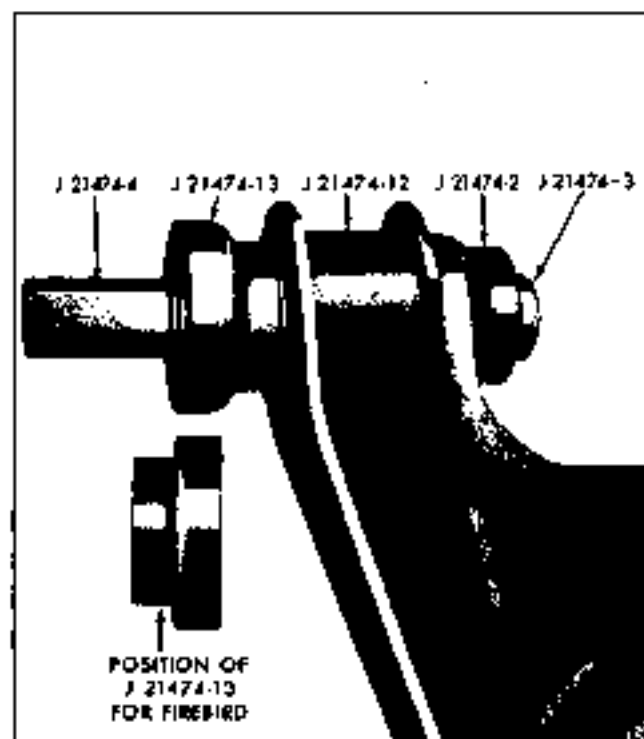

Fig. 3-21 Installing Lower Control Arm Front Bushing (Except Pontiac) and Rear Bushing - Pontiac
1. Install bushing in control arm by arranging tools as shown in Fig. 3-21.